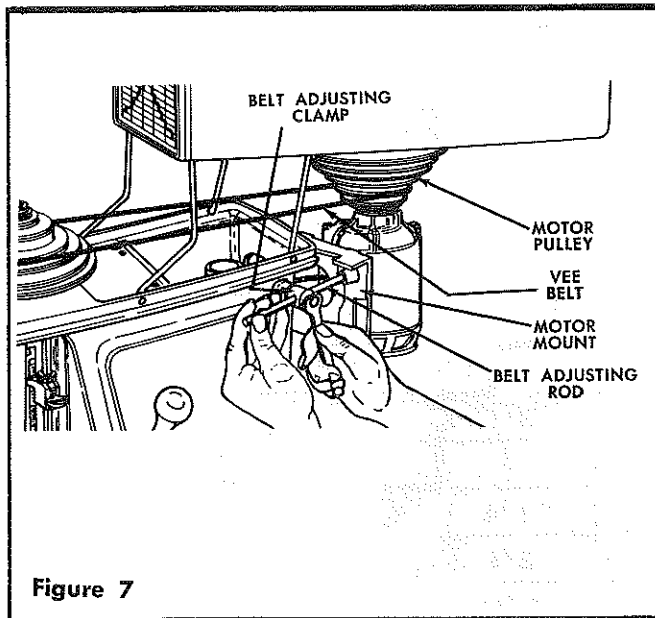

Figure 7
7. Mount motor pulley on motor shaft so that small diameter is at the bottom. (See figure 7), Align the motor pulley vertically with the spindle pulley and tighten the pulley set screw. If motor shaft has a "flat", position the pulley so that pulley set screw tightens against the "flat."
8. Loosen screw on belt adjusting clamp (see figure 7). Place the V-Belt around the pulley grooves which will give the desired speed (see figure 7) and take up belt slack by pivoting the motor